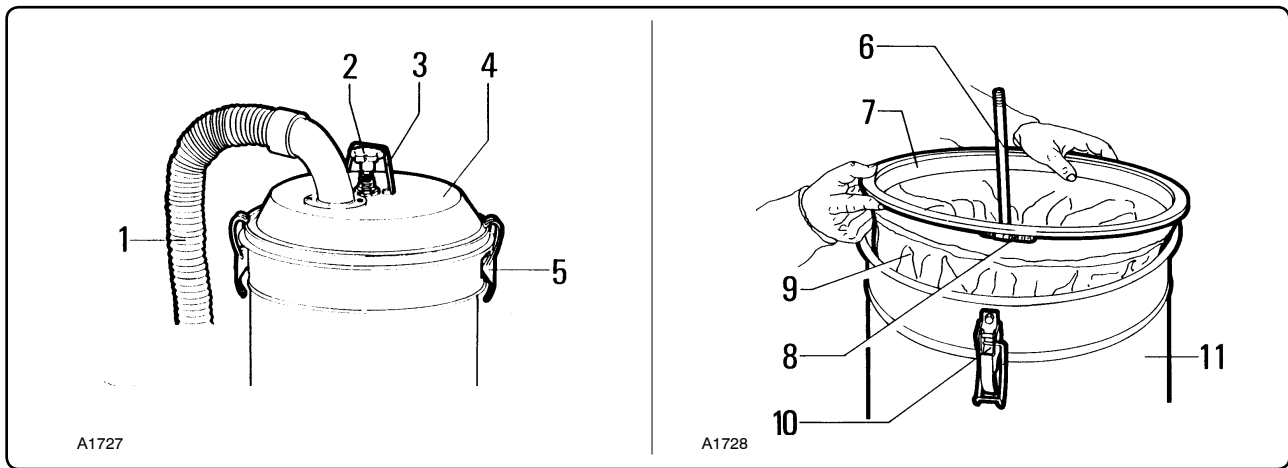

Fig. 7.5.1
- Fit the filter into filtering chamber "11" fig. 7.5.1 then mount cover "4" and lock it in place with the two closing hooks "5".